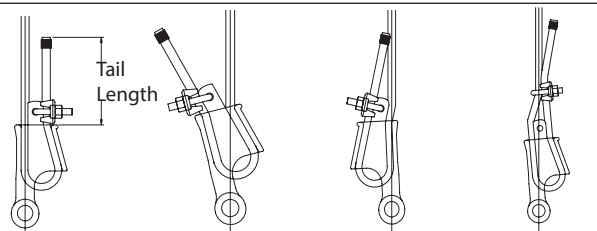

Figure 3
- Do not attach dead end to live end or install wedge backwards (See Fig. 3).
- Pull on live line to remove excess out of loop, leaving enough room to properly insert wedge into basket. (See Figure 3).